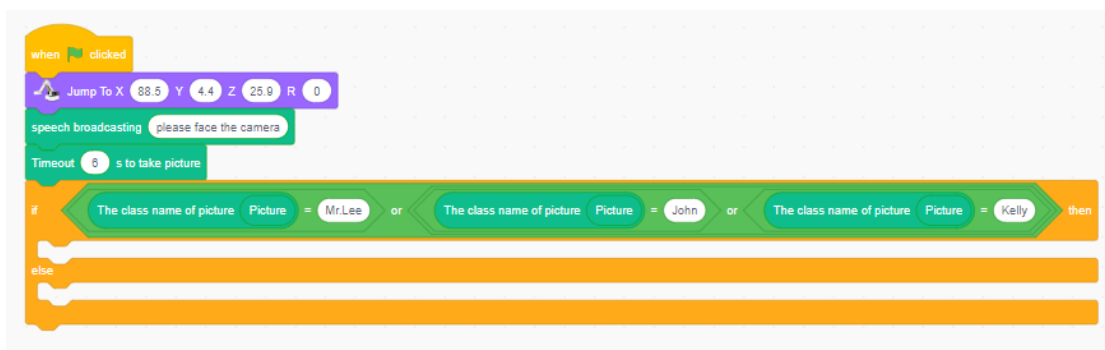

Figure 5.7 Obtaining test pictures with a camera
Step 10: Obtain the name of the facial image and determine whether the name is in the dataset, as shown in Figure 5.7.